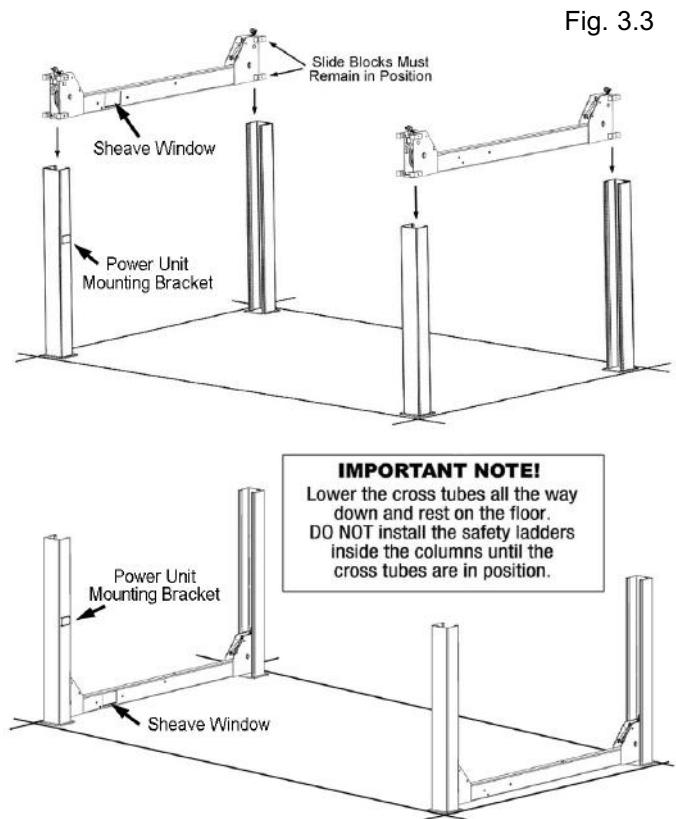

Fig. 3.3
3. Using a forklift or crane, raise the cross tubes (making sure the plastic slide blocks are still in position) and drop down into the top of the columns. NOTE: The sheave windows should be positioned inward and adjacent the power unit column. (See Fig. 3.3 )